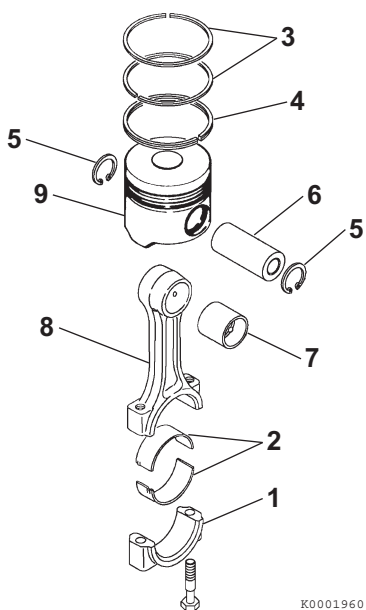

Figure 6-84
2. If removed, install a new wrist pin bushing (**Figure 6-84, (7)**) using a press and the appropriate service tool. Be sure to align the oil holes.
- Reinstall one circlip (**Figure 6-84, (5)**) into the piston. Ensure the circlip is securely seated in the groove.